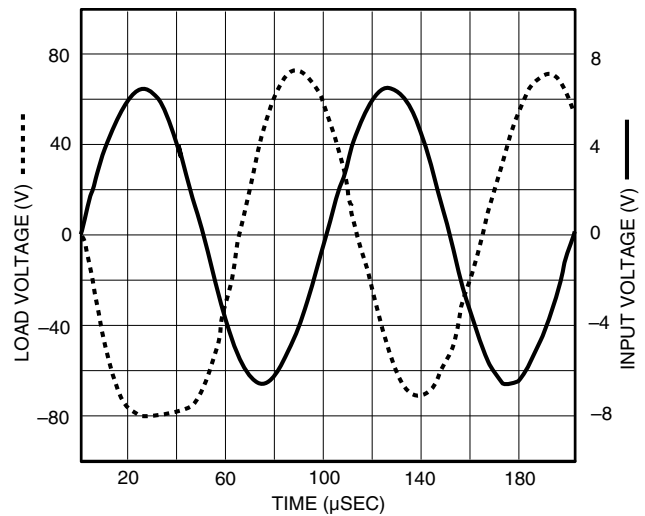

FIGURE 9 (B).
FIGURE 9 (A). A similar model using specifications from the SA02 amplifier is part of a constant-voltage feedback amplifier (a). The output sine wave takes about 50 μ sec to stabilize (b).